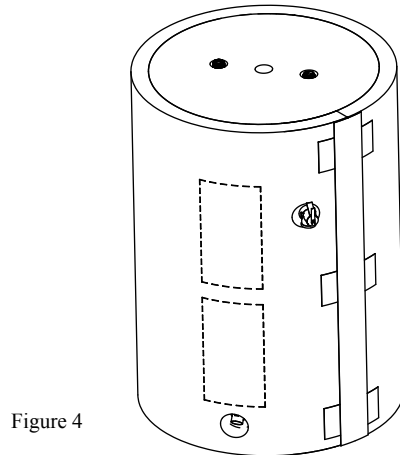

Figure 4
4. Insulate top of water heater by placing top insulation as shown in fig. 4.